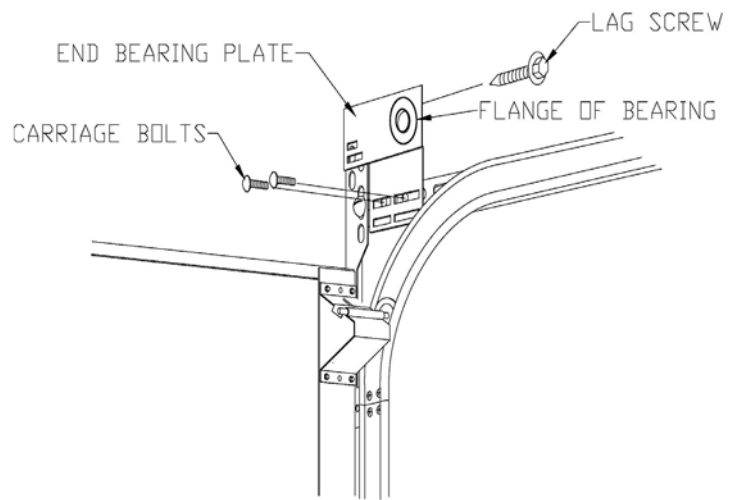

Figure 19
Step 20: Fasten the end bearing plates to the horizontal angle with two 5/16" carriage bolts and flange nuts. Be certain the flange of the bearing is to the inside (door side) of the track. Fasten the end bearing plates to the jambs with one 5/16" x 1 5/8" lag screw. See figure 19.